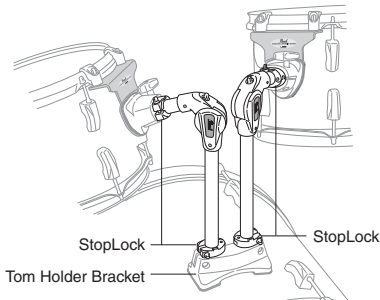

Fig.10
1. Insert the two Tom Holders into the bracket on the Tom Holder Bracket as shown and tighten the wing nuts on the bracket. Set and lock the short tubes on the Tom Holders at roughly the angles shown. The tom arms are equipped with StopLocks that lock to the brackets on the bass drum and toms and keep the drums from rotating and memorize position settings for quick and repeatable set-ups (Fig.10).